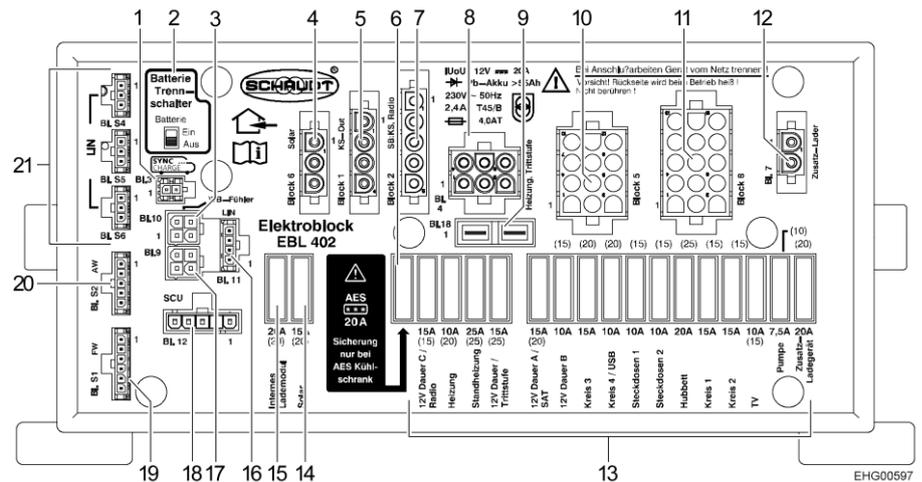

Fig. 137 Transformer/rectifier (EBL 402)
- Move the battery cut-off switch (Fig. 137,2) to the "Aus" (Off) position on the transformer/rectifier EBL 402.
- Move the battery cut-off switch (Fig. 137,2) to the "Ein" (On) position on the transformer/rectifier EBL 402.